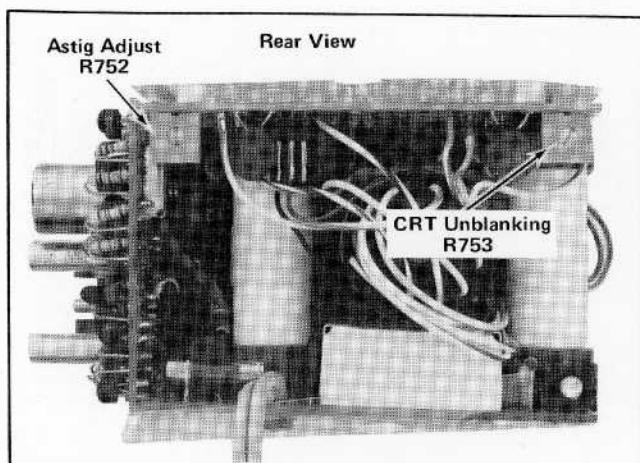
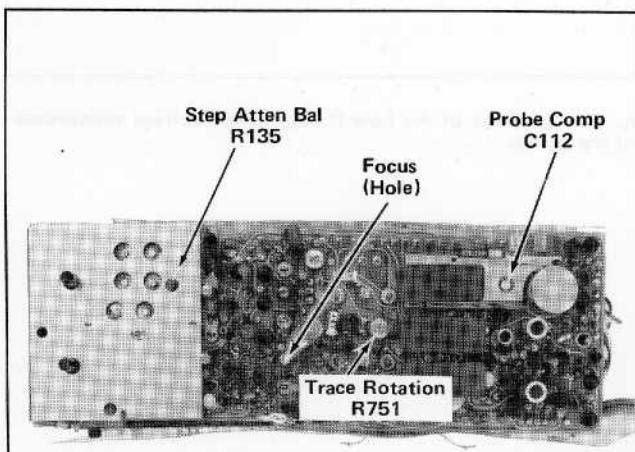

Fig. 5-3. Location of Astigmatism and CRT Unblanking adjustments.
Fig. 5-4. Location of Step Attenuator Bal, Probe Compensation, and Focus adjustments.
Preset the controls as given in the Preliminary Control Setting. See Fig. 5-3 and Fig. 5-4 for locations of adjustment controls.
- d. Adjust Trace Rotation R751 (screwdriver adjustment on sidepanel) for a trace that is parallel with the horizontal graticule lines. See Fig. 5-4.
- b. Adjust unblanking adjustment R753 (see Fig. 5-3) so that retrace is just blanked out.
- e. Adjust the STEP ATTEN BAL adjustment, R135, for a trace at the horizontal center line. See Fig. 5-4.
- f. Adjust C112 for the best square-wave display (flat top). See Fig. 5-4.